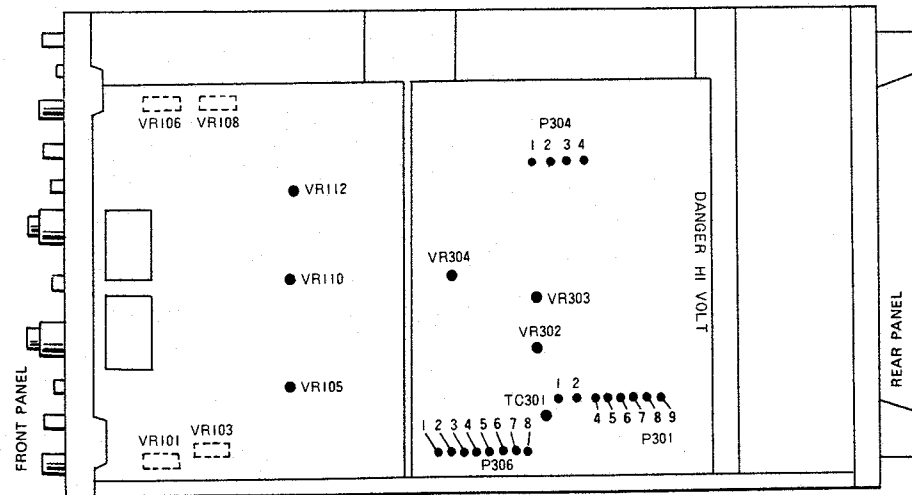

Fig. 40 Location of adjustments, bottom of scope
Next, measure the voltage on the pins 2 through 5 of P306 and on the pin 1 of P304 to check that these voltages are /8V, +5V, +15V, +10V and +120V, respectively. (Fig. 40)
With INTENSITY knob set in the 11 o'clock position, adjust VR302 until the trace disappears, then adjust TC301 so that the brightness at the sweep starting point is the same as the brightness at other points (SWEEP TIME/DIV in $0.2 \mu s$ position). Finally, adjust the spot with FOCUS and ASTIG. (Fig. 40)
7. POSITION Adjustment (Fig. 40)
With POSITION knob set in the mechanical center position, adjust VR112 until the trace is centered on CRT. (Fig. 40)
With a calibrated 1 kHz 0.5V signal applied, adjust VR110 for 5 DIV deflection. (Fig. 40).